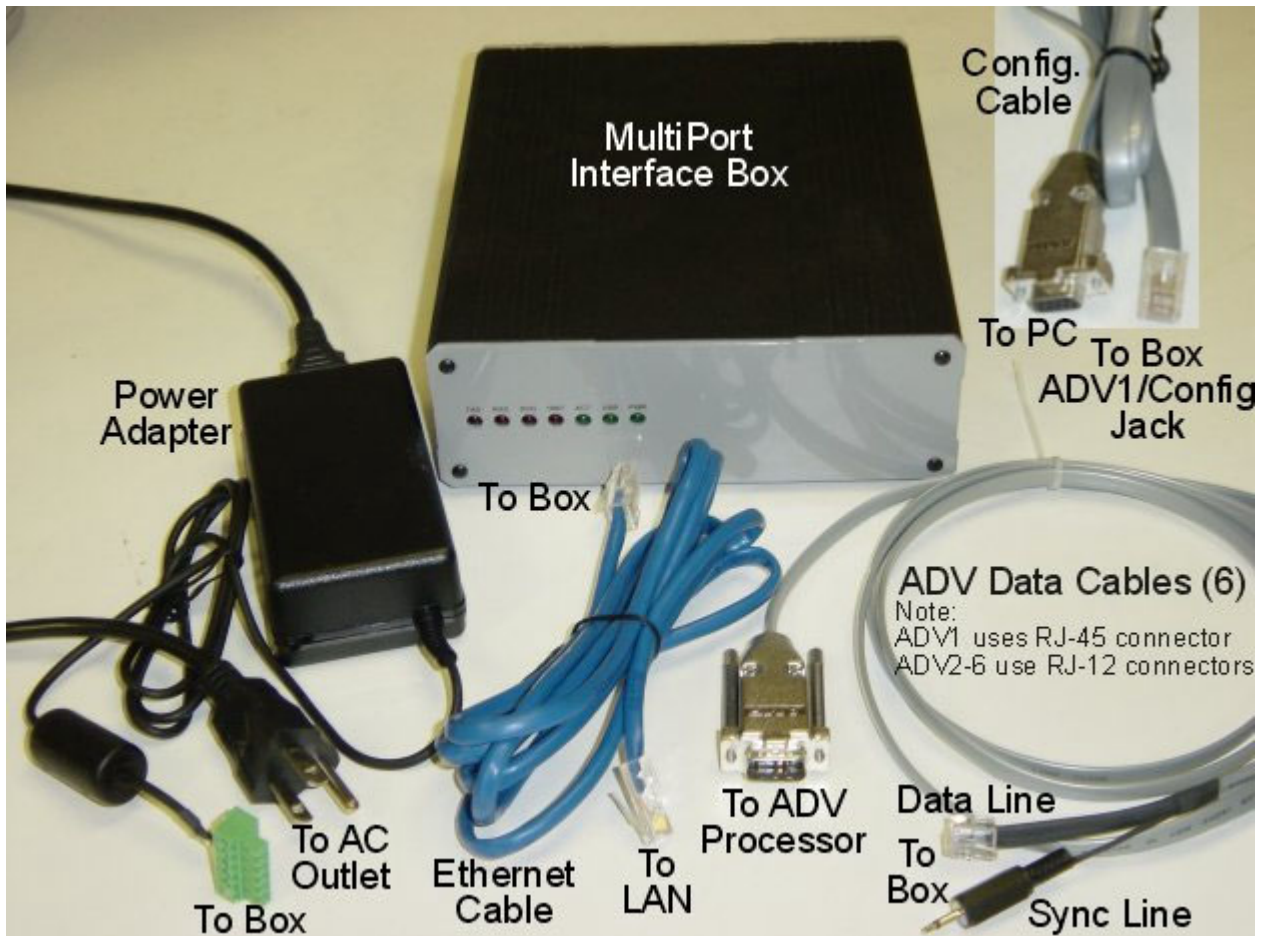

Figure 45. MultiPort Interface Box and Accessories
The SonTek/YSI MultiPort (Figure 45) includes:
Figure 45 shows the front panel layout of the MultiPort.
Check the shipping container and its contents for obvious damage. Verify you have received all the expected items. Standard items are shown in Figure 45. Contact SonTek/YSI if any items appear to be damaged or missing.
- Connect the individual data cables (Figure 45) between the MultiPort box and the ADV Processor boxes. Be sure to connect both the Data Line and the Sync Line for each system.